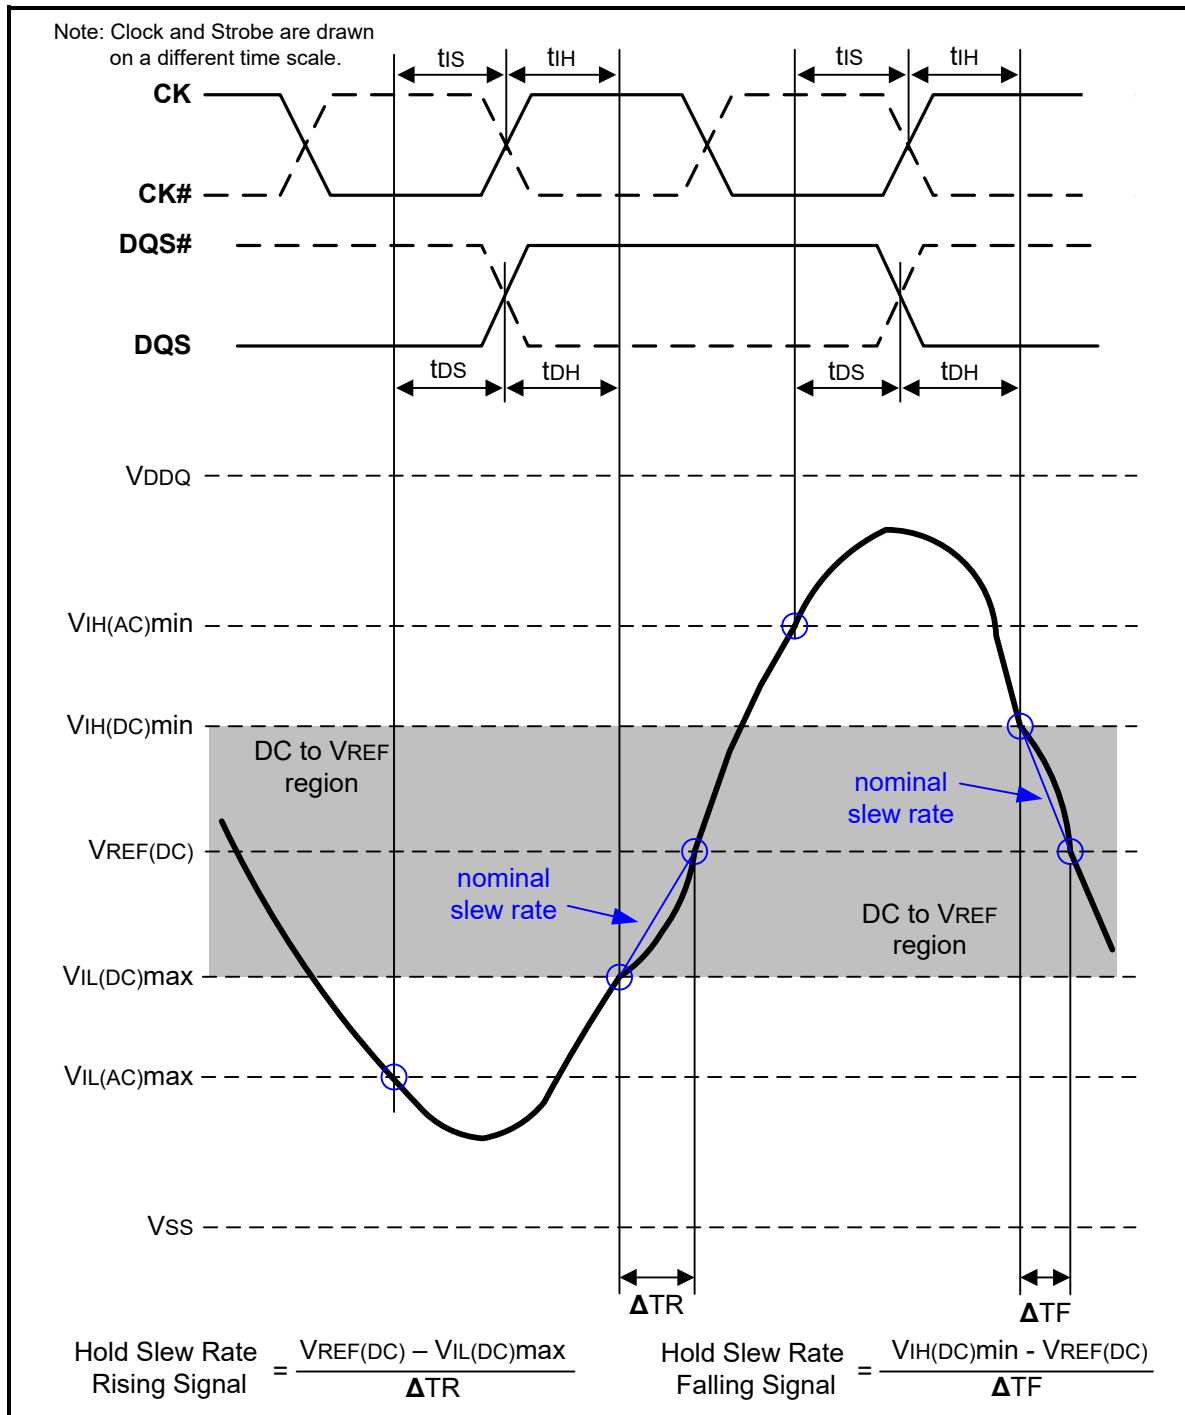
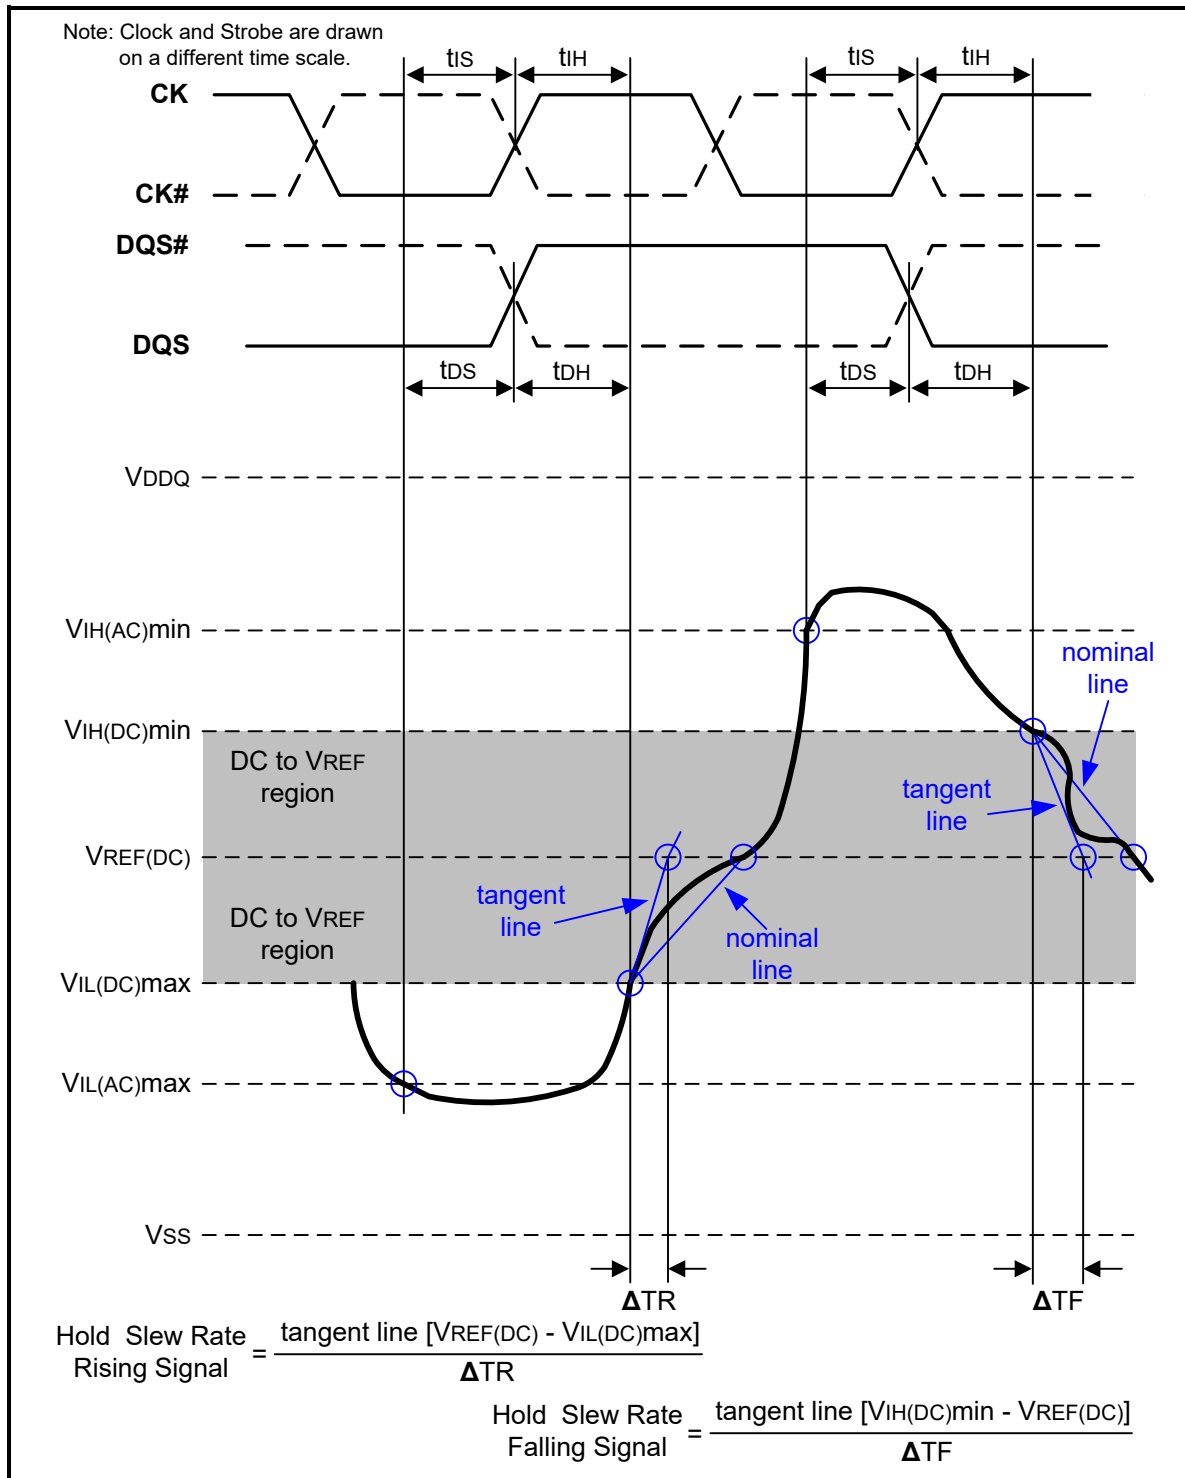

Figure 108 – Illustration of nominal slew rate for hold time tDH (for DQ with respect to strobe) and tIH (for ADD/CMD with respect to clock)
Figure 110 – Illustration of tangent line for hold time t_{DH} (for DQ with respect to strobe) and t_{IH} (for ADD/CMD with respect to clock)
Hold (tDH) nominal slew rate for a rising signal is defined as the slew rate between the last crossing of VIL(DC)max and the first crossing of VREF(DC). Hold (tDH) nominal slew rate for a falling signal is defined as the slew rate between the last crossing of VIH(DC)min and the first crossing of VREF(DC) (see Figure 108). If the actual signal is always later than the nominal slew rate line between shaded 'DC level to VREF(DC) region', use nominal slew rate for derating value. If the actual signal is earlier than the nominal slew rate line anywhere between shaded 'DC to VREF(DC) region', the slew rate of a tangent line to the actual signal from the DC level to VREF(DC) level is used for derating value (see Figure 110).